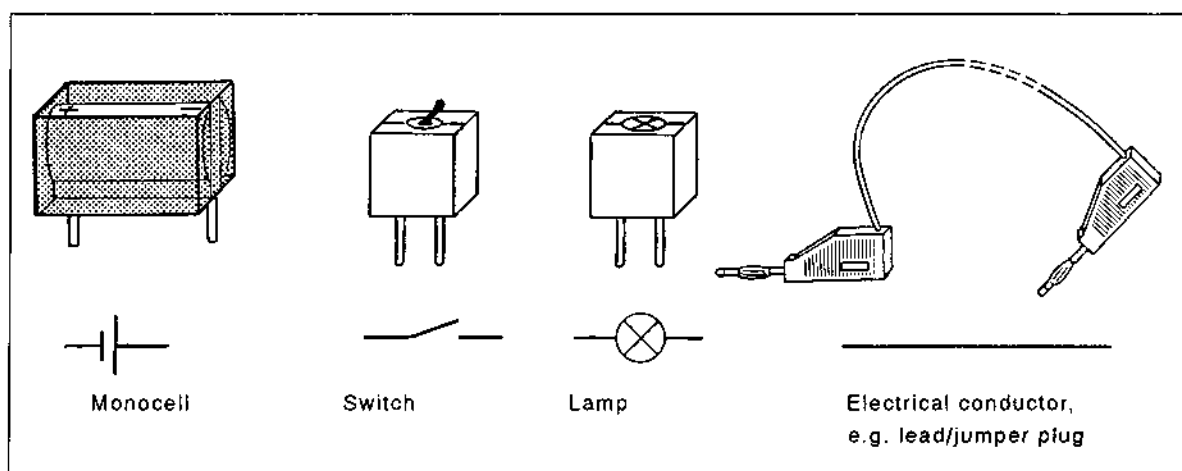

Fig. 3 Circuit components and their symbols
5. Draw the circuit diagram for the circuit you have built. Take the symbols for the individual components from fig. 3.